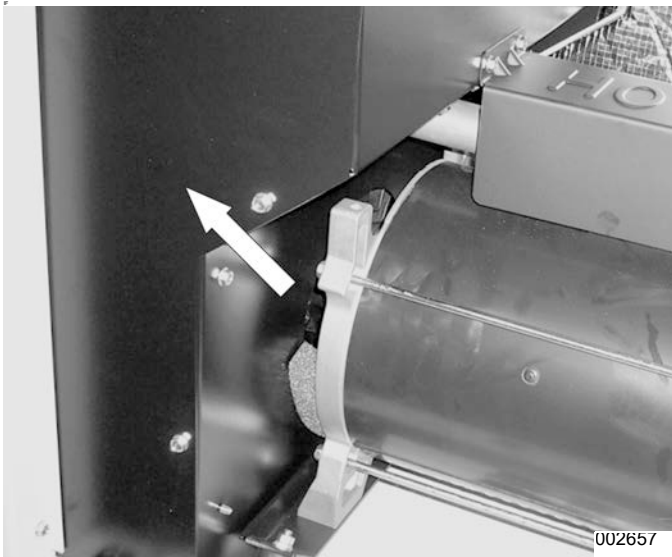

Figure 4-40.
2. **Remove Side Exhaust Enclosure Cover:** See Figure 4-40. Use a 10 mm socket to remove the five bolts from the exhaust side cover. Remove side covers.